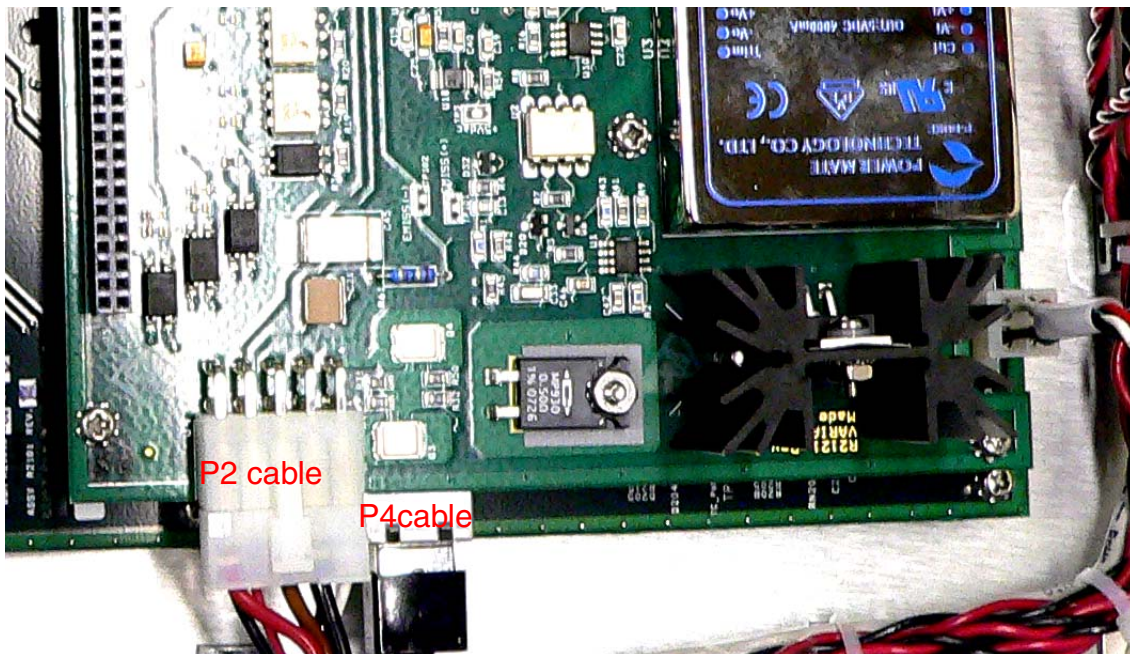

Figure B-32 Connections
4. Remove the following connections (Figure B-32):
8. Reinstall the following connections (Figure B-32 on page B-22):
9. Reinstall the five (5) Philipps head screws and washers.